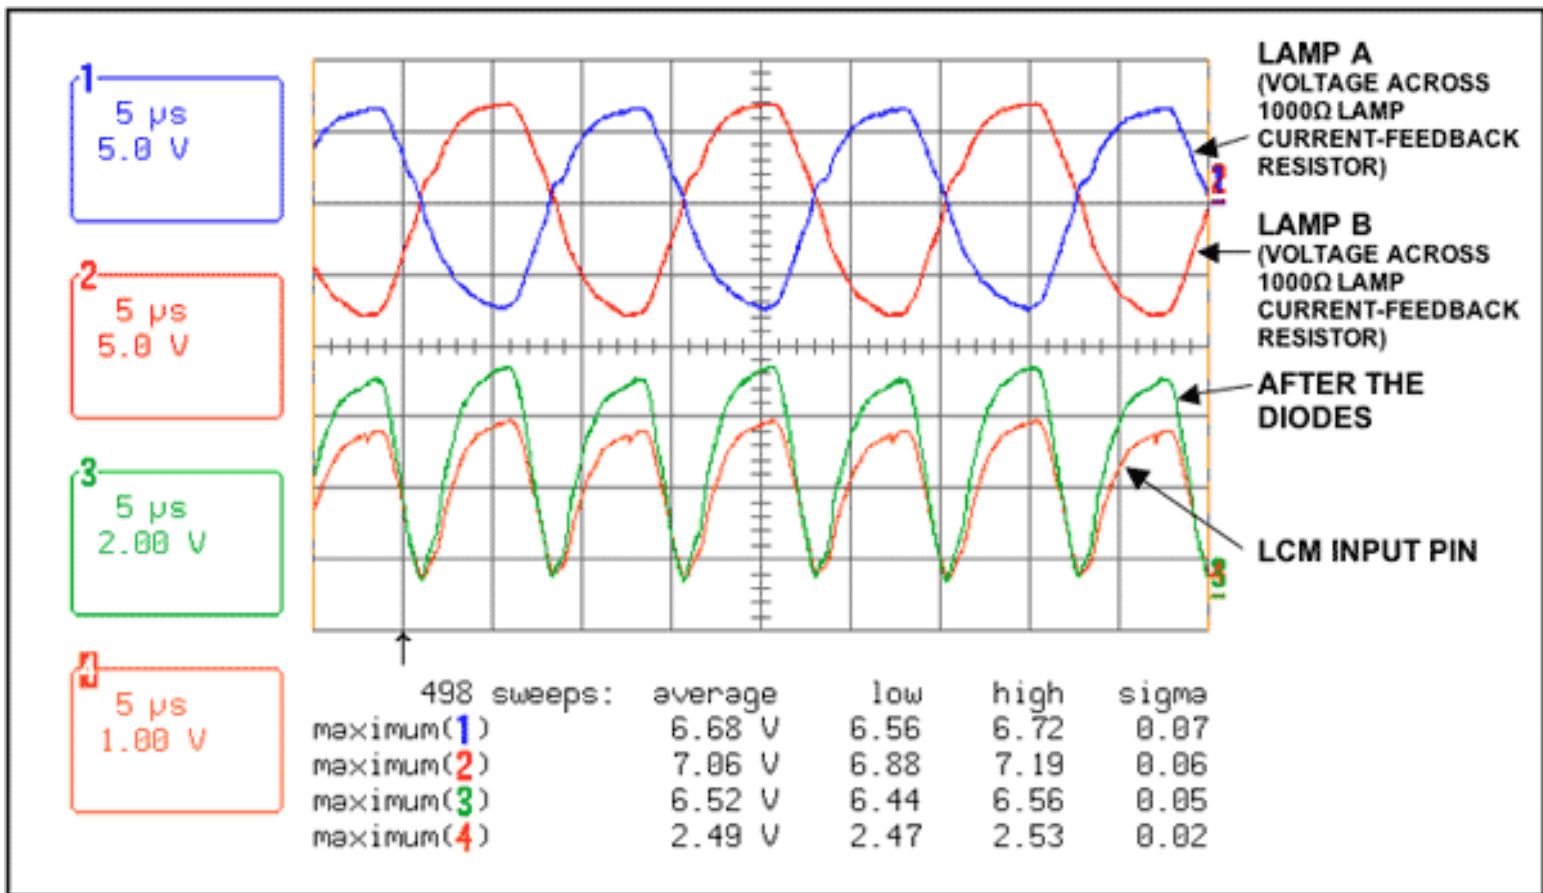

Figure 3. Lamp current feedback signal path.
**Figure 3** shows the lamp current feedback signal as it transitions to the LCM input on the DS3984 or DS3988. Unlike the single-lamp-per-channel application, the multiple-lamps-per-channel application does not use an AC-coupling capacitor at the LCM input. The DS3984/DS3988 controllers control the lamp current based on the peak signal measured at the LCM input. With no AC-coupling capacitor, the peak control level is the DC common voltage (1.35V) plus the lamp regulation threshold (1.0V) or 2.35V (nom). Hence the peak voltage level created by the lamp current feedback resistor must be attenuated to a target value of  $2.35V_{\text{PEAK}}$  at the LCM input for the device to control the lamp current to the proper level. As an example, in Figure 1, the  $1000\Omega$  lamp current feedback resistor creates a  $7.07V_{\text{PEAK}}$  signal, and it must be attenuated down to  $2.35V_{\text{PEAK}}$  before reaching the LCM input.